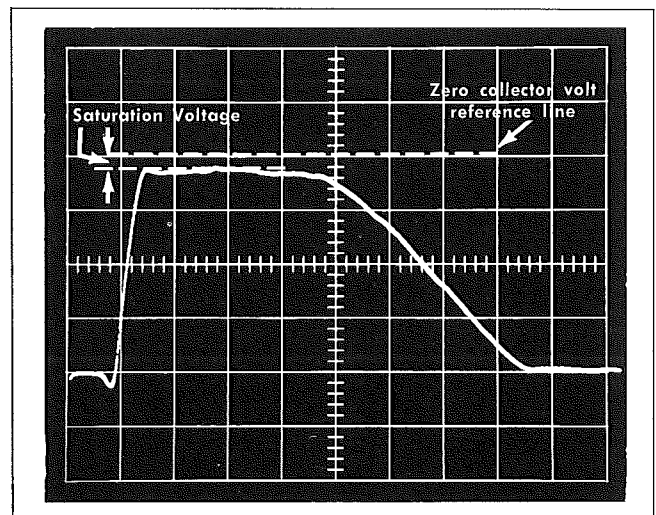

Fig. 2-8. Oscilloscope display used to measure saturation voltage.
4. Turn the pulse generator on. Set the Type 292 center TEST VOLTS switch to NPN or PNP, the center BIAS CURRENT switch to NORMAL or INVERTED (depending on type of transistor under test), and set the oscilloscope triggering controls for a display similar to that shown in Fig. 2-8. Use this display to measure saturation voltage of the transistor.